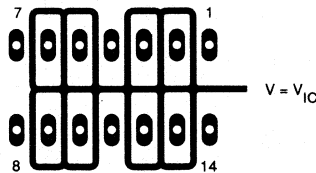

FIGURE 4. ISOLATION METAL AROUND DEVICE INPUTS
- 1 Isolate the device from other potential leakage sources. Use a grounded shield around and between the device inputs (see Figure 4). Leakages that would otherwise flow to the inputs will be shunted away.